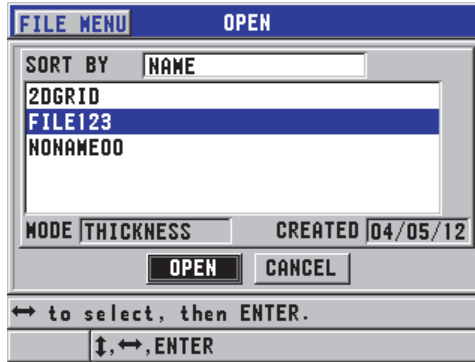

Figure 6-27 Opening a file
2. In the **OPEN** screen (see Figure 6-27 on page 107):